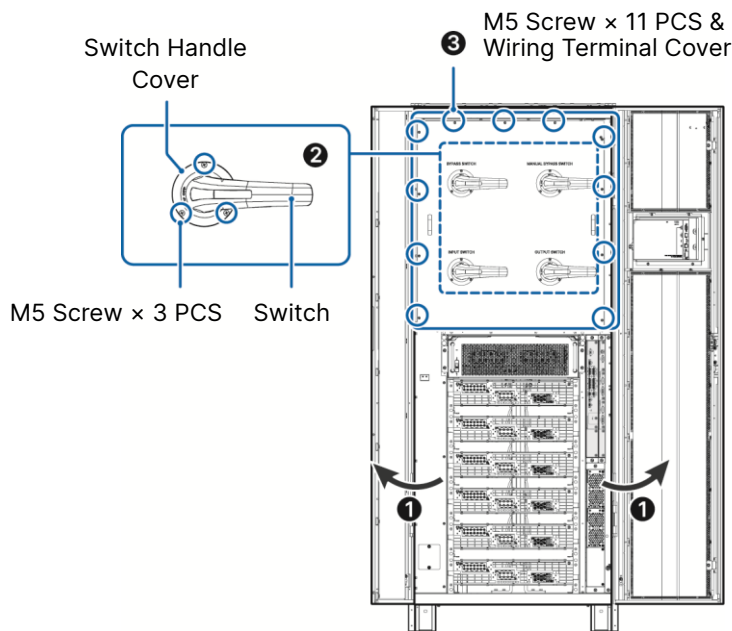

Figure 5-8: Remove the Switch Handle Cover, Switch and Wiring Terminal Cover
① Open the UPS's two front doors, ② unscrew each switch's three M5 screws in order to remove a total of four switches and four switches' handle covers. After that, ③ unscrew the eleven M5 screws to remove the wiring terminal cover. Please refer to *Figure 5-8*.